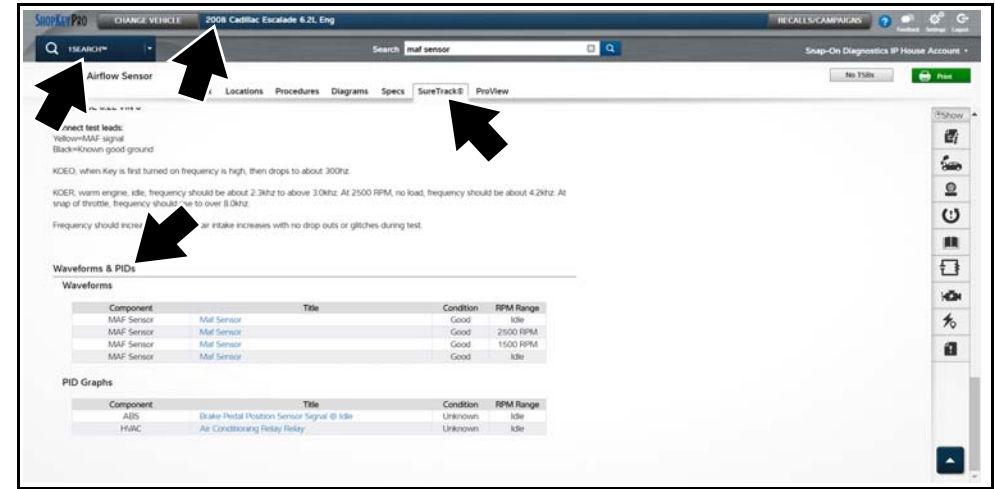

Figure 3-44 ShopKey Pro - SureTrack waveform examples
2. Enter (identify) the vehicle details in the search field at the top of the screen (*Figure 3-44*).
3. Select the 1Search™ or Component Search tab (*Figure 3-44*).
6. From the SureTrack page, select the Waveforms and PIDs link (the link is active only if waveforms or PIDs are available) (*Figure 3-44*).